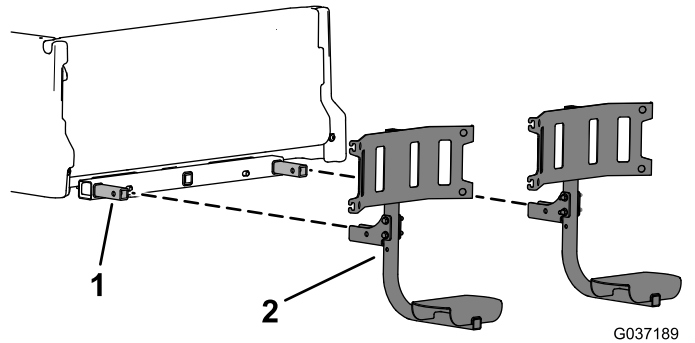

Figure 9
9. Insert the assembled trash-can mounts into the trash-can frame tubes (Figure 9).